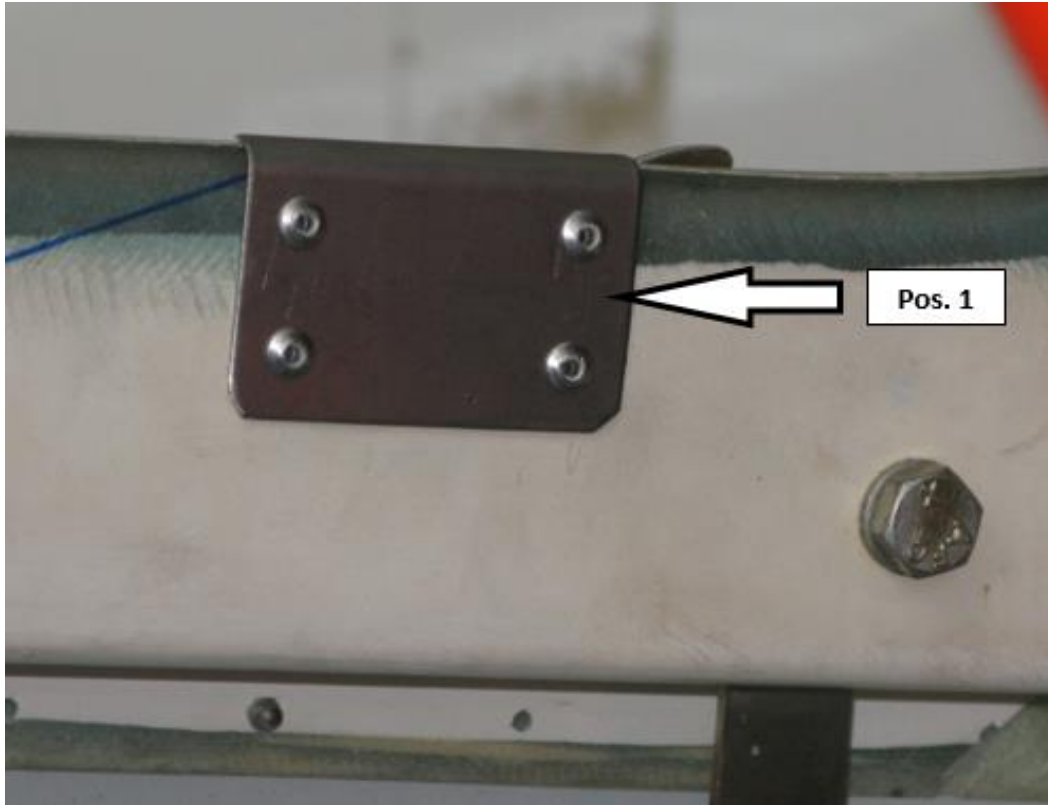

Fig. 3 - Fixing of protective metal plate on the fixed frame (view of the left side of the cockpit)
- 2) Degrease the respective contact areas of the protective metal plate and of the left side of the fixed frame by using cleaning solution (alcohol), clean the degreased areas by paper towel and let them dry. Apply the polyurethane adhesive sealant to the corresponding contact surface of the protective stop, place it on the left side of the fixed frame and attach it to the frame by 4 rivets \varnothing 2.4 mm (see Fig. 3). Remove overflows of the polyurethane adhesive sealant.